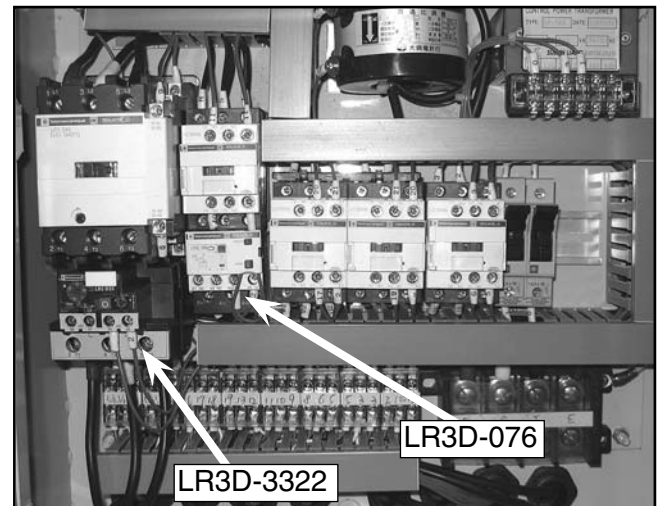

Figure 8. Overload relay.
4. Remove the LR3D-3355 overload relay (**Figure 8**), and replace it with an LR3D-3322 (17-25A) type, with the dial set to 18A.
5. Remove the LR3D-086 overload relay (**Figure 8**), and replace it with an LR3D-076 (1.6-2.5A) type, with the dial set to 1.7A.